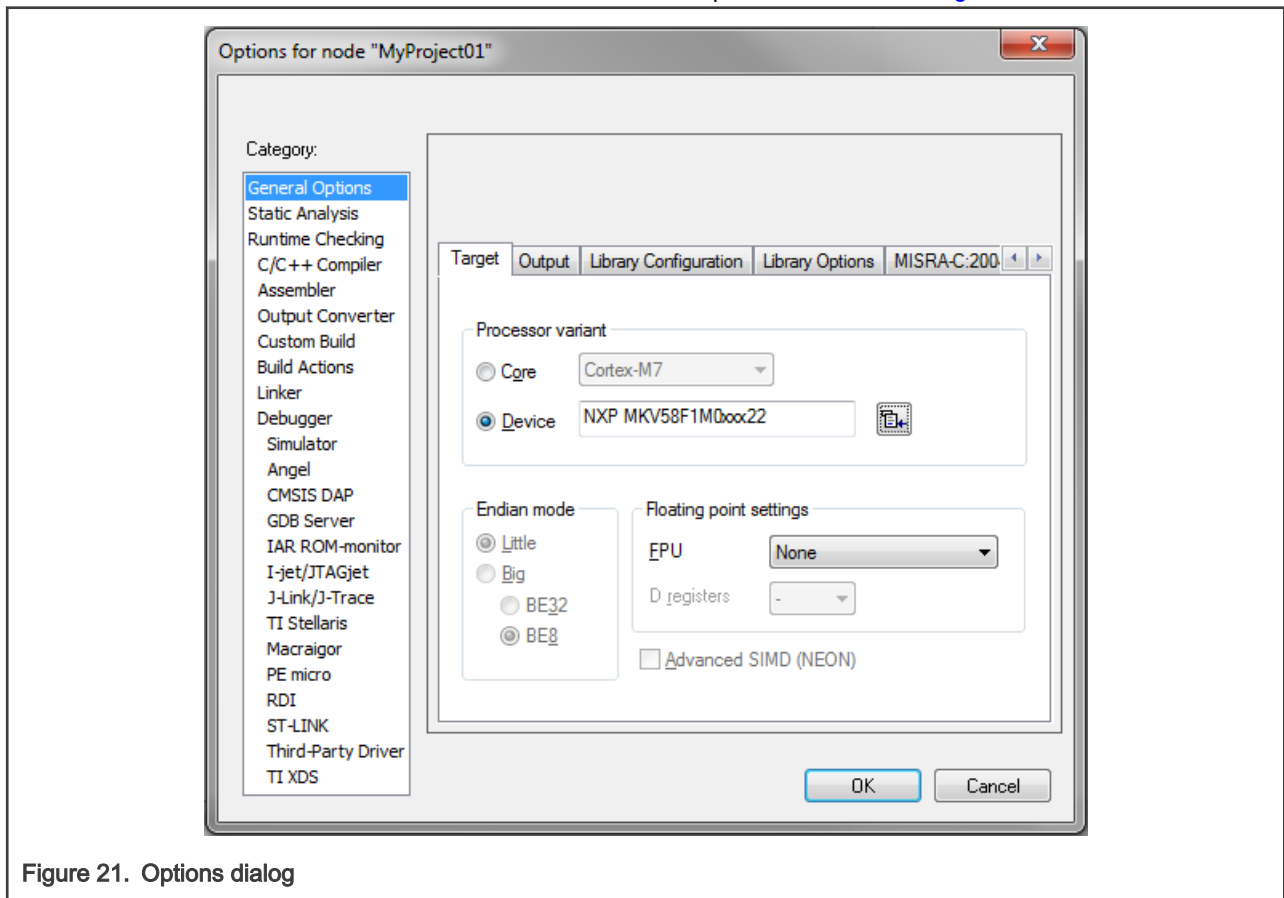

Figure 21. Options dialog
6. In the Target tab, select the Device option, and click the button next to the dialog to select the MCU. In this example, select NXP > KV5x > NXP MKV58F1M0xxx22. Select None in the FPU option. Click OK. See Figure 21.